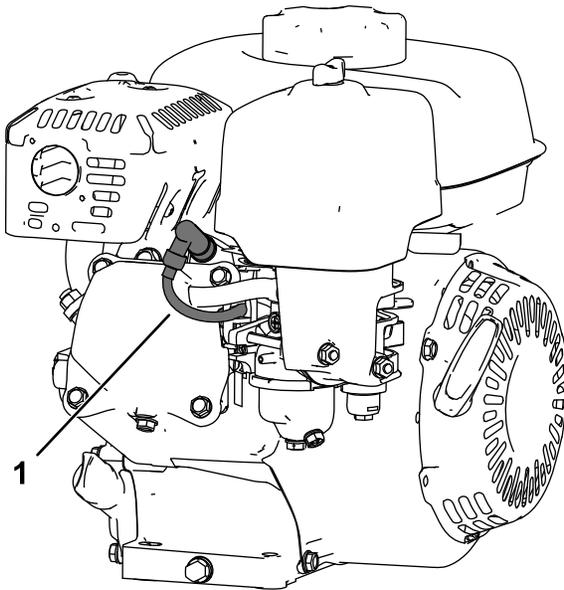

Figure 27
5. Disconnect the spark-plug wire (Figure 27).